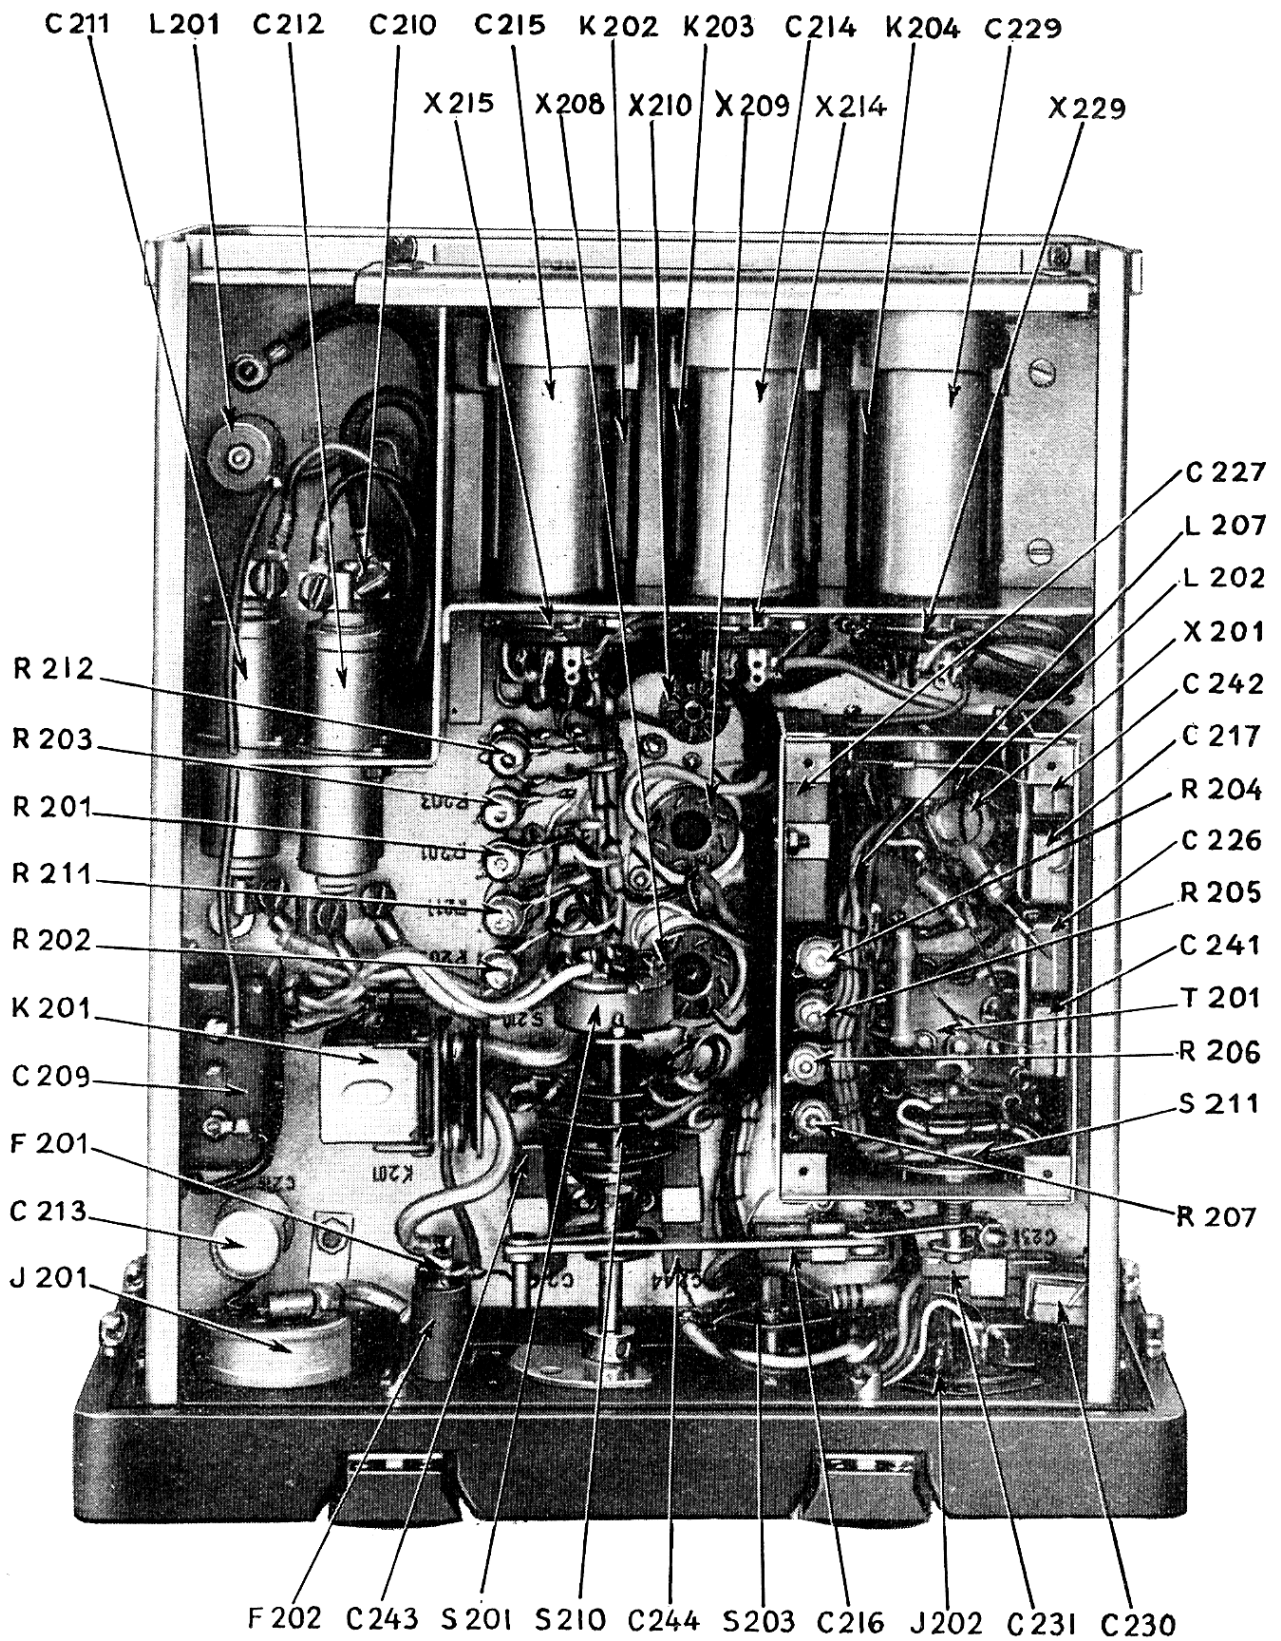
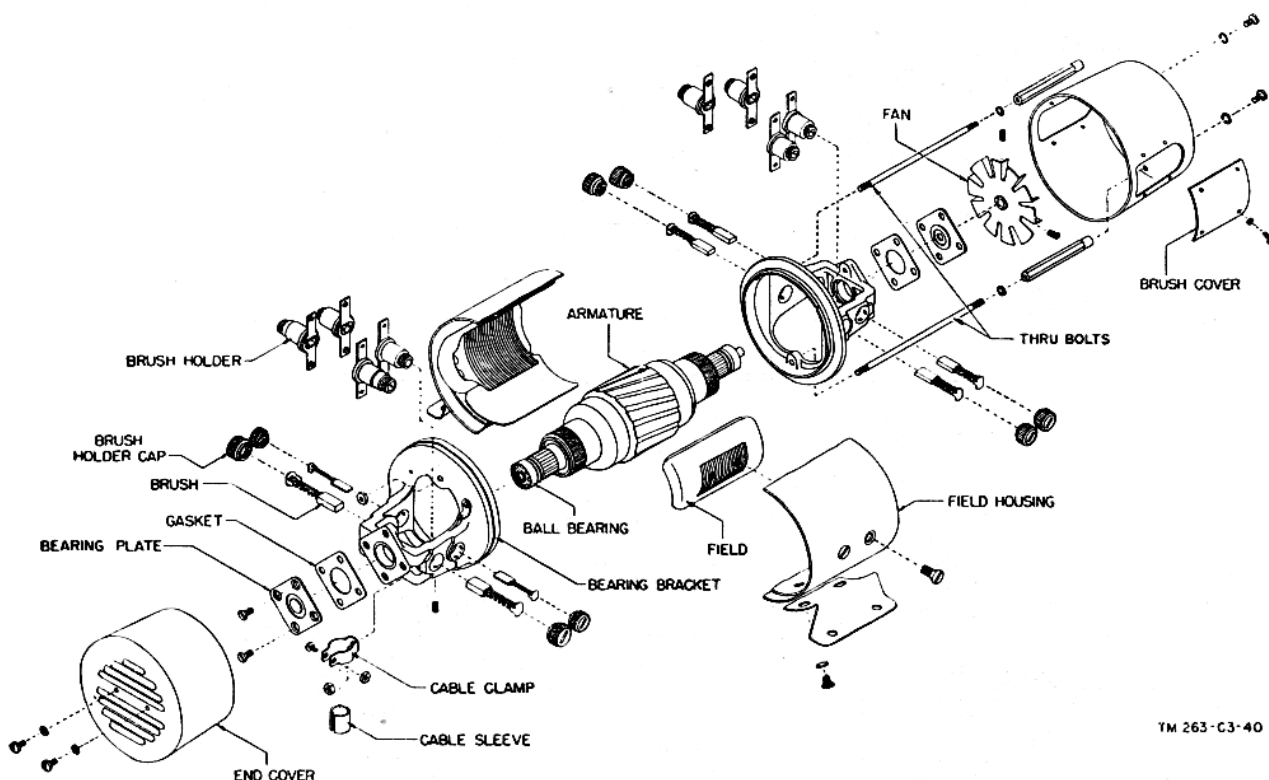

Figure 122.2. Dynamotor-Power Supply DY-88/GRC-9, cover removed, bottom view.
Figure 127.1. Typical dynamotor D201, exploded view.
(2) Capacitors C214, C215, and C229 (fig. 122.2) and relays K202, K203, and K204 are located on the under side of the chassis, toward the rear of the unit. To gain access to the capacitors and relays, first remove the two screws holding bracket to the unit. The capacitors and relays now can be removed.
(3) Do not attempt to repair the hermetically sealed relays. If they are defective, they must be replaced.
In order to trouble shoot the dynamotor power supply, it is necessary to remove the power supply from the case. Connect the power supply to a radio set known to be good. Set voltage selector switch control H206 (fig. 122.2) to the proper setting corresponding to the voltage of the battery to be used. Check the DYN FUSE. Be sure it corresponds to the voltage of the battery to be used as shown in paragraph 45.1*b*. Note that the terminals on output receptacle J202 are numbered (fig. 122.2). These terminals are to be used to check the output voltage of the dynamotor power supply.
(1) Disconnect the dynamotor wires at the under side of the chassis (fig. 122.2) by loosening the screws which hold the dynamotor wire spade lugs. *Tag all wires before removal.*
(2) Remove the four screws and nuts which hold the dynamotor to the chassis.
(3) Gently pull the dynamotor up off the chassis.
*c.* Remove the screws which hold the front and rear covers to the dynamotor. Remove the covers (fig. 127.1).
Page 163. Fig. 127. Insert figure 127.1 after figure 127.
Note. These measurements are made at output receptacle J202 (fig. 122.2) with the receiver-transmitter connected to the dynamotor power supply. The terminals on J202 are numbered (fig. 122.2). Figure 141. Insert figure 141.1 after figure 141.